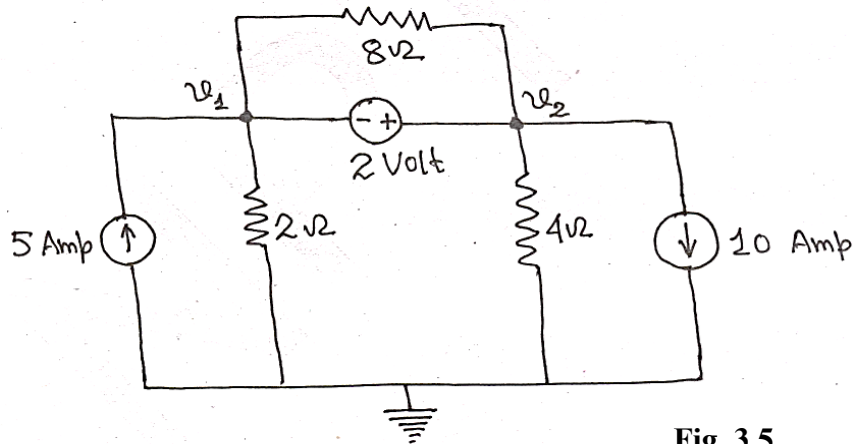

Fig. 3.5
5. Find Nodal Voltage using Nodal Analysis of circuit shown in figure 3.5. [Ans:  $V_1 = -7.33$  and  $V_2 = -5.33$ ]